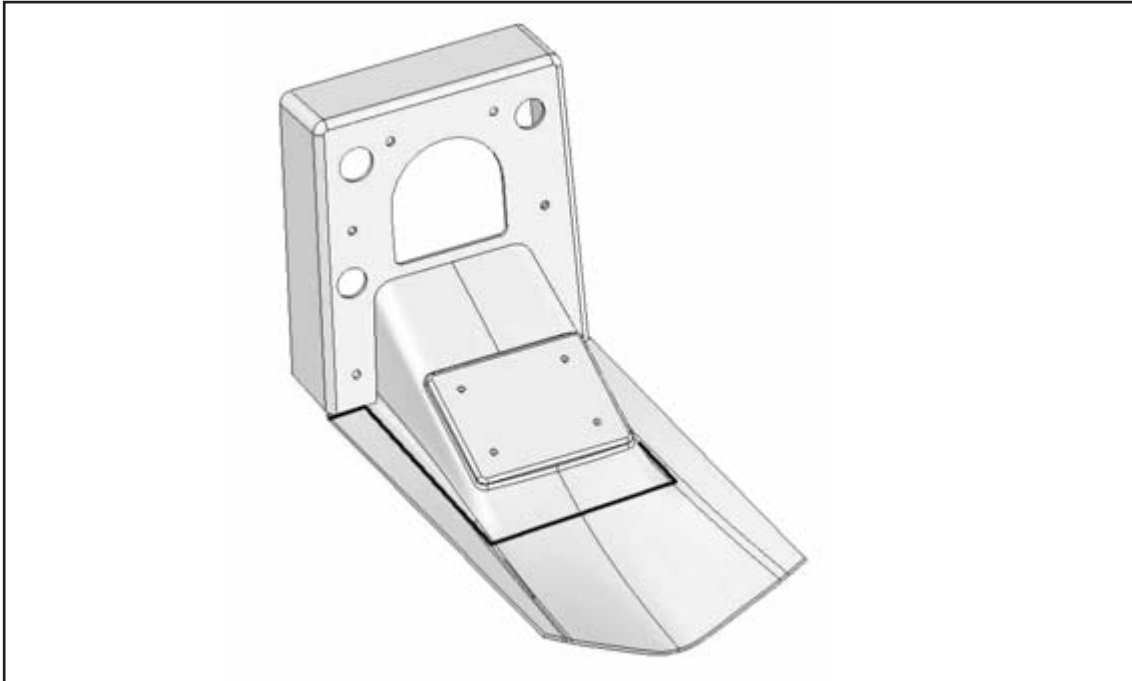

Figure 1.2.2.1-2
2. The collar of the mounting template must be cut in accordance with the stern of the mould. In twin installations, this means cutting according to figure 1.2.2.1-3 when the stern is not vertical.